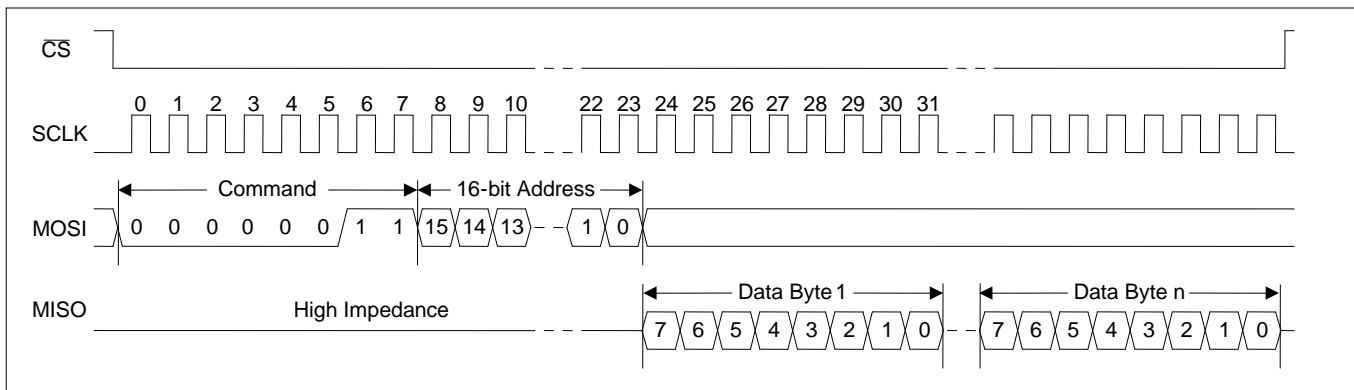

Figure 12 - SPI Read Transaction Functional Timing
**Read Transactions.** The device registers are accessible when **EESEL**=0. The internal EEPROM memory is accessible when **EESEL**=1. After driving CSN low, the bus master transmits the read command followed by the 16-bit address. The device then responds with the requested data byte on MISO, increments its address counter, and prefetches the next data byte. If the bus master continues to demand data, the device continues to provide the data on MISO, increment its address counter, and prefetch the following byte. The read transaction is completed when the bus master drives CSN high. See Figure 12.